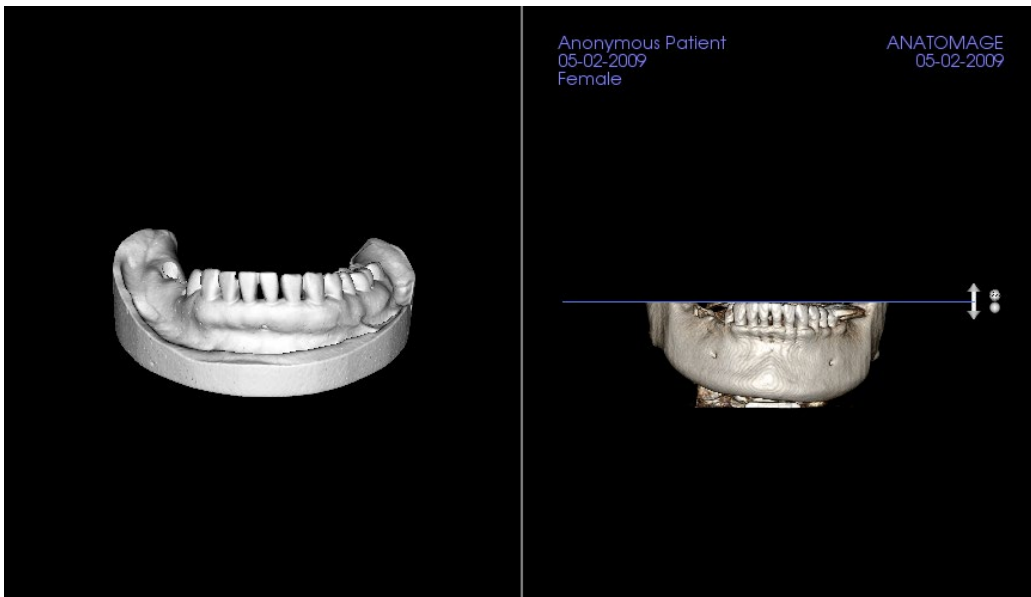

Figure 1
- **Register to CT:** This initiates the first step in registering the STL file to the DCM. The dialog (right, lower) shows the three steps needed to complete the registration. The layout (Figure 1) shows the STL on the left of the rendering window and the DCM on the right with the adjacent clipping tool. Click **Help** to read the embedded document describing how to register different cases.